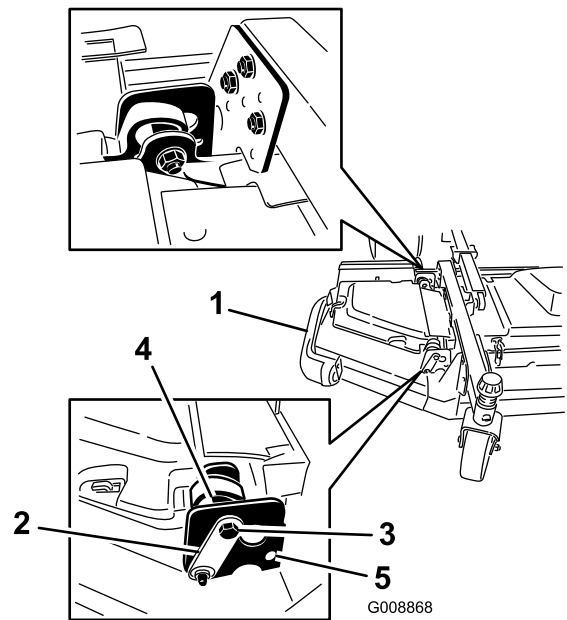

Figure 7
2. Loosen the bolts and nuts securing the 2 eccentric spacers to the winglets (Figure 7).
3. Rotate the rear (closest to traction unit) eccentric until the outside blade tip is about 3 mm (1/8 inch) higher than the desired height of cut (Figure 7).